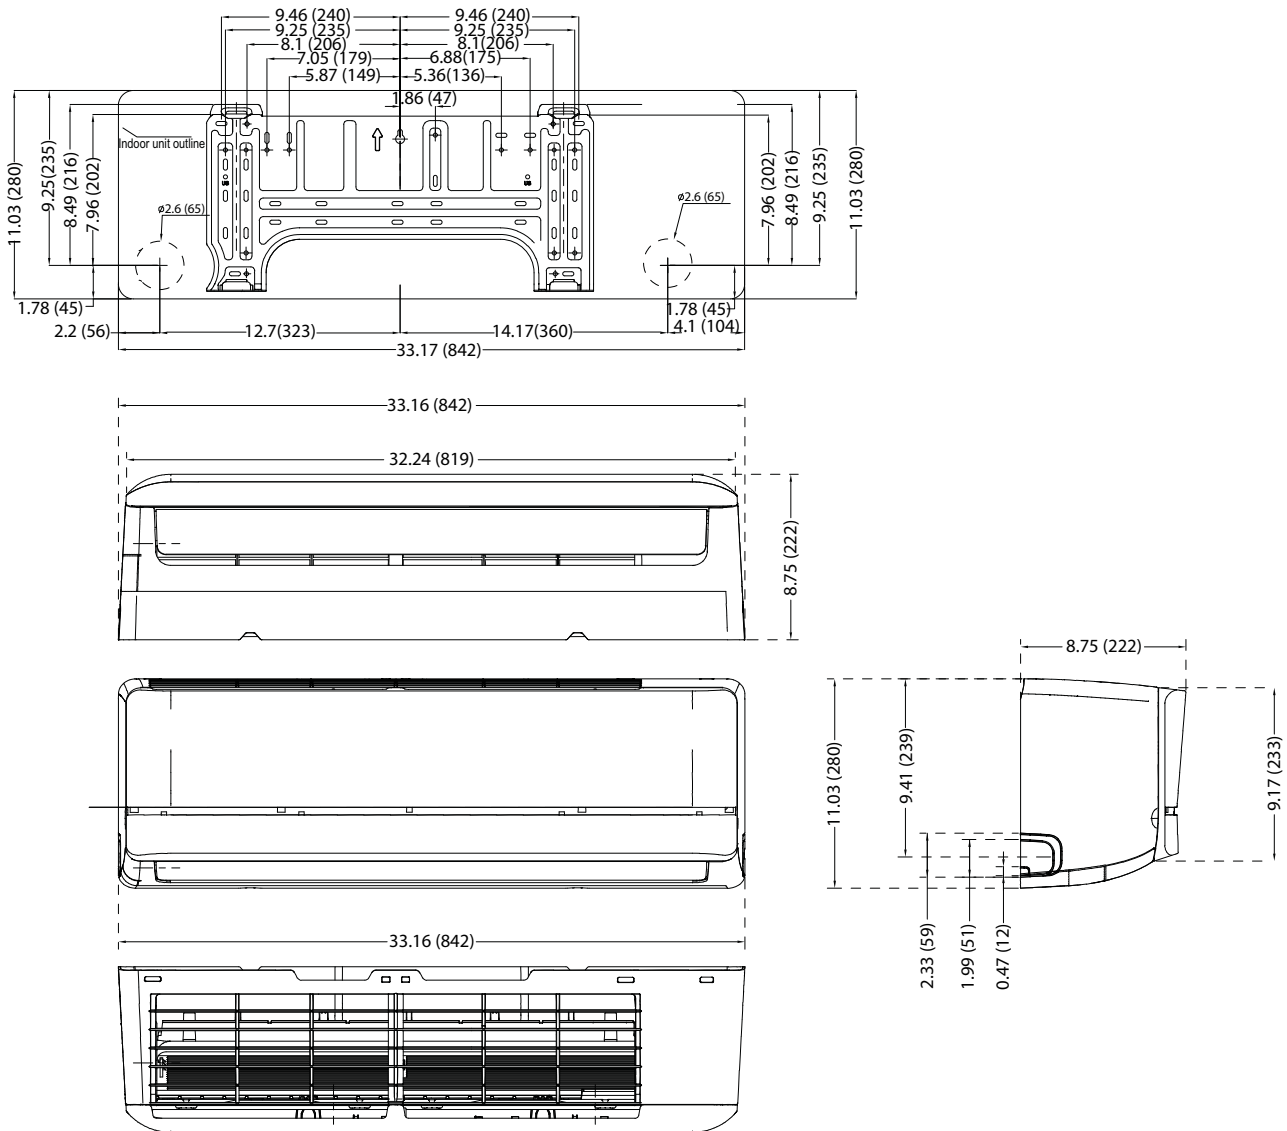
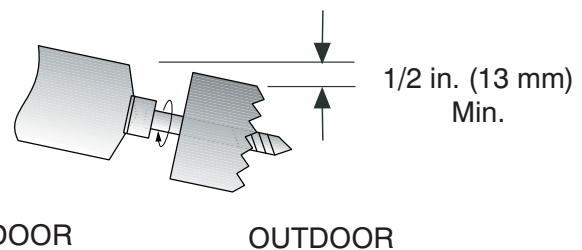

Fig. 5 — Sizes 9K and 12K
Fig. 10 — Drill Holes
1. Determine the pipe hole position using the mounting plate as a template. Drill the pipe hole diameter per the values given in Figures 5, 6, and 7. The outside pipe hole is 1/2-in. (13 mm) min. lower than the inside pipe hole, so it slants slightly downward (see Fig. 10).